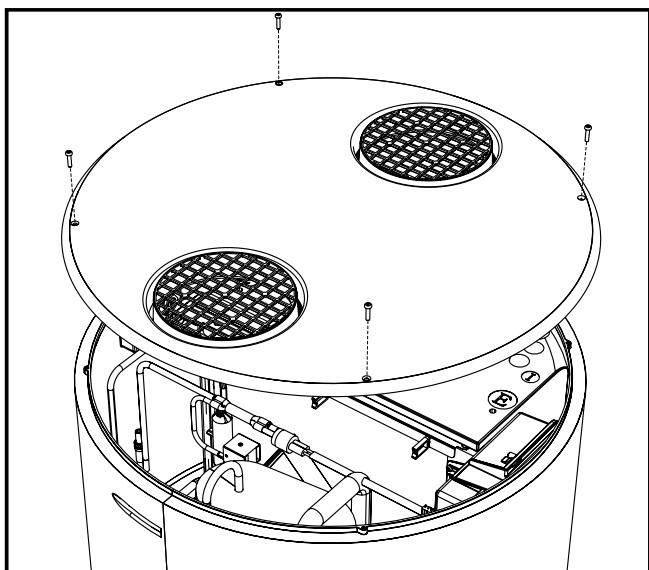

fig. 76- Top cover removal
- Remove the top cover by first undoing the locking screws (fig. 76).